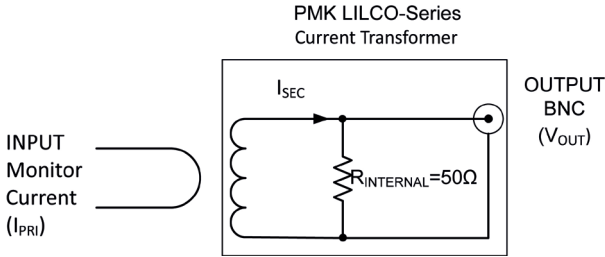

Figure 1 - Simplified Schematic
The measurement principle is the same as of power transformers. The current transformer has a primary and a secondary winding, and an alternating current flowing in the primary winding, I_{PRI} , induces an alternating current in the secondary winding, I_{SEC} . The secondary winding current, I_{SEC} , flows through the internal 50Ω impedance, $R_{INTERNAL}$, generating an output voltage, V_{OUT} , (Figure 1). This burden resistance, $R_{INTERNAL}$, in parallel with the BNC Output Termination, sets the L_{SEC}/R_{BURDEN} time constant along with the secondary winding's inductance, L_{SEC} , to set the low frequency bandwidth cut-off point.
- **Output Sensitivity [V/A]** - The relationship between the input current, I_{PRI} , and the resulting output voltage, V_{OUT} , developed across the output termination resistance, R_{INTERNAL} , in parallel with the BNC Output Termination (R_{BURDEN}), of the current transformer. Lowering the output termination resistance, will reduce the output sensitivity. The tolerance of the termination resistance value and the transmission losses in the connecting cable have an influence on the output sensitivity accuracy. (See Figure 1 and Output BNC Termination Selection (Measurement Device Input Termination) Table for more information)